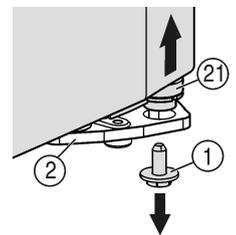
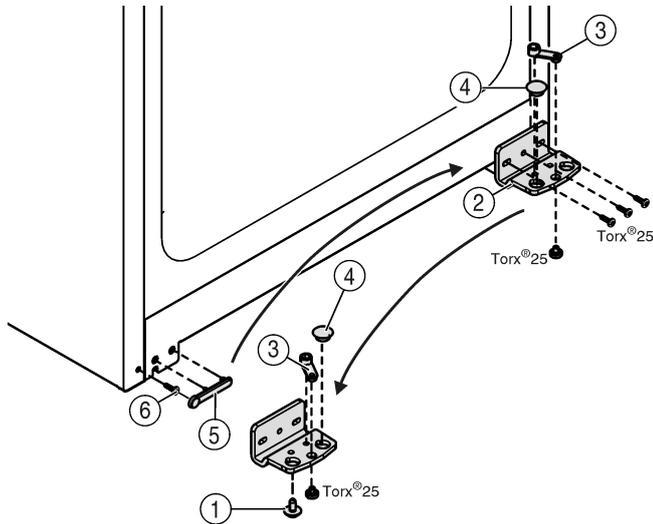

Fig. 5
Fig. 6
- ▶ Unscrew the securing screw on the bottom right *Fig. 5 (1)* turn hinge.
- ▶ The bearing pin *Fig. 5 (21)* should come out of the turn hinge *Fig. 6 (2)*.
- ▶ If the bearing bolt *Fig. 5 (21)* doesn't undo press it out from underneath.
- ▶ Unscrew the turn hinge Fig. 6 (2).
- ▶ Unscrew the bearing element, Fig. 6 (3) transfer it to the opposite location hole of the turn hinge and screw it firmly into place.
- ▶ Take the stopper Fig. 6 (4) out of the turn hinge and transfer it to the receiving hole on the opposite side of the turn hinge.
- ▶ Carefully lift off the cover Fig. 6 (5) on the handle side.
- ▶ Undo the screw Fig. 6 (6) and transfer it to the opposite side.
- ▶ Put the cover Fig. 6 (5) back on.
- ▶ Screw the turn hinge Fig. 6 (2) firmly into place on the new hinge side (**with 4 Nm**), possibly using a power screwdriver.
- ▶ Insert the securing screw Fig. 5 (1) at the bottom into the bearing pin and tighten it (**with 4 Nm**).